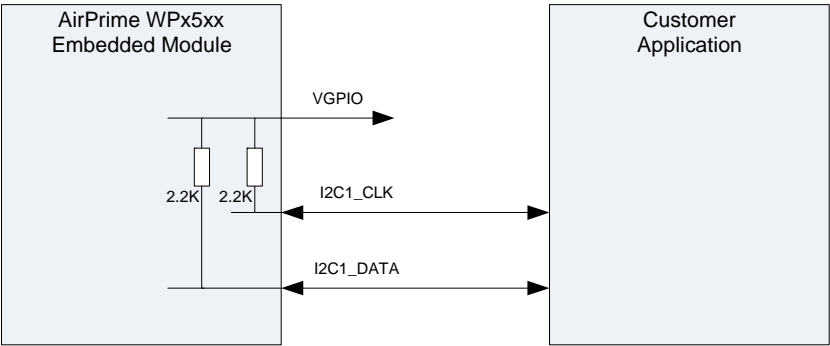

Figure 4-3: Example of I2C Bus Application
- I2C signals are implemented internally as open drain outputs (per the I2C specification) with 2.2 k $\Omega$  pull-up resistors to VGPI0 (see Figure 4-3 on page 76).